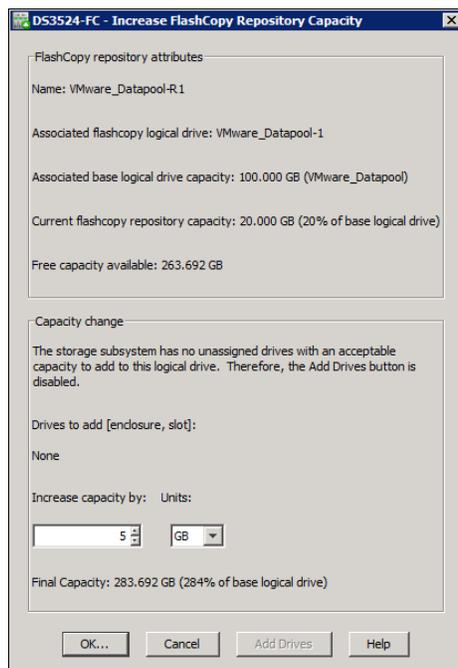

Figure 2-35 Increase FlashCopy Repository Capacity
Increase FlashCopy repository logical drive capacity by using free capacity on the array of the FlashCopy repository logical drive. See Figure 2-35.
- ii. In the Increase FlashCopy Repository Capacity window (Figure 2-35 on page 46) select **Add Drives**.